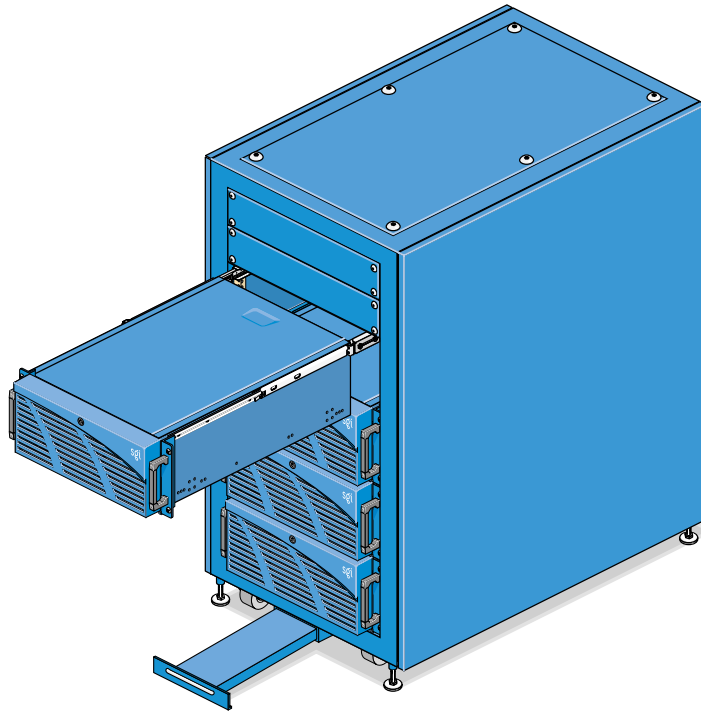

Figure 4-7 Pulling a Node Out of a Rack
9. Using the node's handles, pull the node out of the rack; see Figure 4-7.